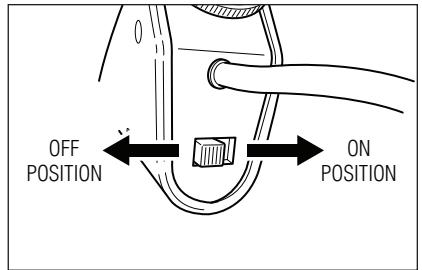

Figure 1. Power Switch
- Locate the power switch on the back of the engraver. See Figure 1.